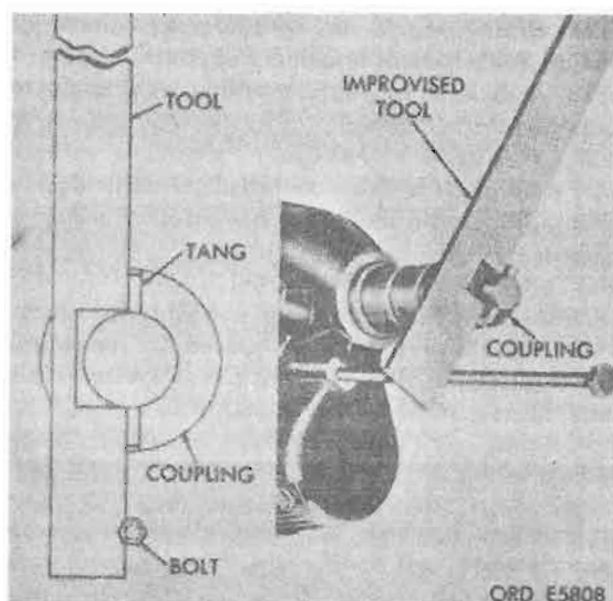

Figure 6-11. Aligning coupling on distributor shaft.
d. If either shaft or coupling is discarded and replaced, the new shaft or coupling must be alined since the drive tongue is off center. It is important that these alinement procedures be followed any time a shaft or coupling is discarded. Refer to figure 6-11.
(6) Place improvised tool against bolt and tangs of coupling as shown in figure 6-11, with smaller portion of coupling in opening of the tool.
(7) Install roll pin (fig. 6-11).